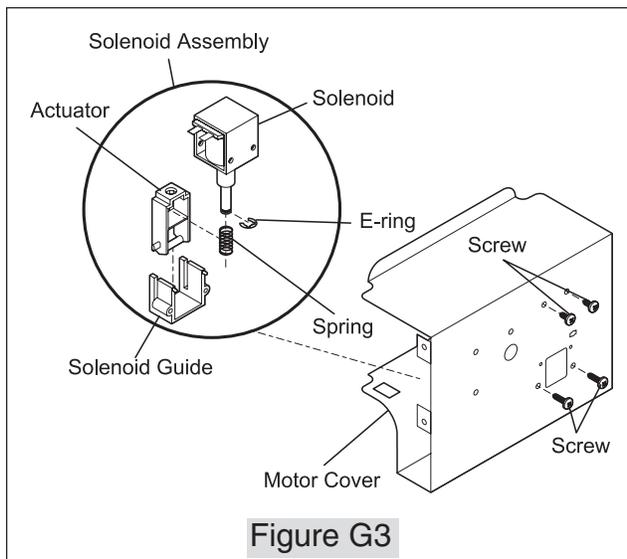

Figure G3
8. Remove four (4) mounting screws on front of Motor Cover and pull Solenoid Assembly free. (See Figure G3)